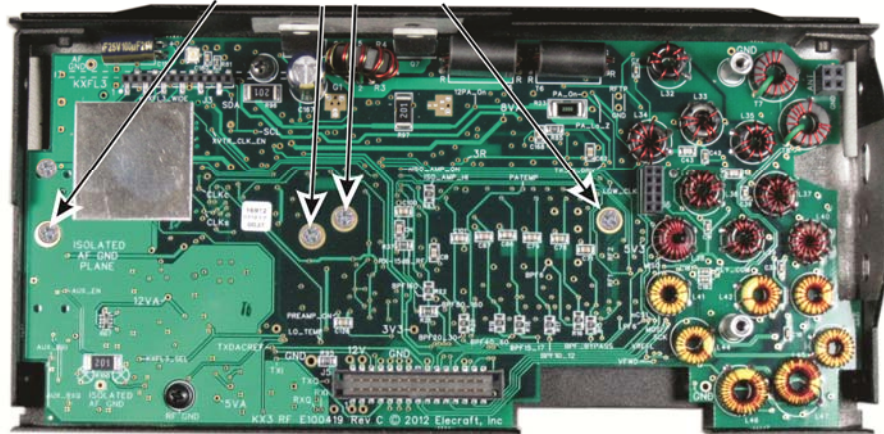

Figure 37. Checking the Alignment of the Battery Holder Standoffs.
- ☐ Thread 2-56 screws into the remaining four holes in the RF board as shown in Figure 37, make adjustments as necessary for them to fit just as you did in the previous step and then remove them. These screws will be replaced later to secure the battery holders.